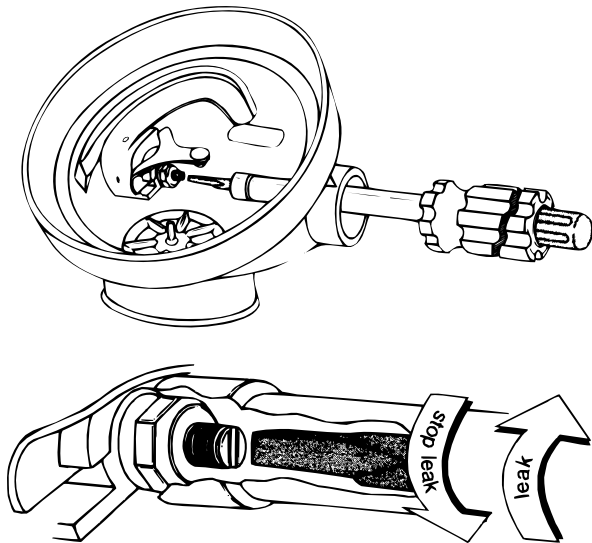

Figure 10
Insert the ¼" nut driver portion of the Lever Height Adjustment Tool (LHAT) through the open port and hold the locknut. Insert the screwdriver portion of the LHAT tool through the center of the nutdriver and insert it into the end of the disc retainer. While holding the disc retainer still with the screwdriver, turn the nutdriver clockwise to correct the lever height or eliminate excessive "free-play". (See Figure 10)
Remove the port plug (item 18). Insert the ¼" nut driver portion of the Lever Height Adjustment Tool (LHAT) through the open port and hold the locknut. Insert the screwdriver portion of the LHAT tool through the center of the nutdriver and insert it into the end of the disc retainer. While holding the disc retainer still with the screwdriver, turn the nutdriver counterclockwise. (See Figure 10.) Adjust only far enough to correct the leakage problem. Reinstall the port plug (18)